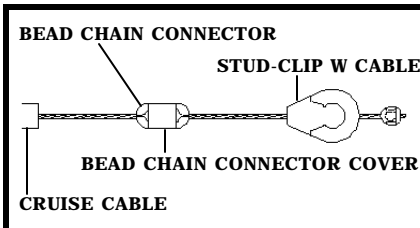

Figure 19
2. Slide a **BEAD CHAIN CONNECTOR COVER** over the **CRUISE CABLE**, then attach the **BEAD CHAIN CONNECTOR** to the cable. Attach the **STUD-CLIP W CABLE** to the **BEAD CHAIN CONNECTOR** and slide the **CONNECTOR COVER** over the **BEAD CHAIN CONNECTOR**. **Figure 19**